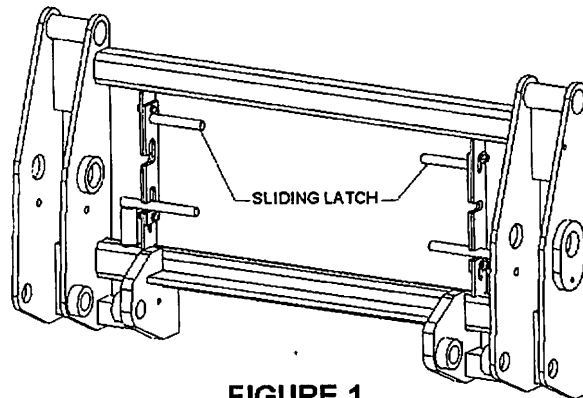

FIGURE 1.
STEP 1 Approach the loader slowly and place the tractor close enough to allow the connection of the hydraulic hoses. Connect the hoses to the tractor so that the loader can be operated. See Figure 1.
STEP 1 *DRIVE ONTO FLAT, LEVEL CONCRETE.* Raise the loader and place the stand legs in the position shown in Figure 1.
1. Raise sliding latches as shown in Figure 1.
3. Rotate QT pins out of the upper notches, lower, and then rotate them into the lower notches on the sliding latches as shown in Figure 1. **NOTE:** If the QT pins do not easily slide thru the lug on the attachment, do not force them. Simply rotate the attachment back and forth slowly with the bucket cylinders of the loader and the QT pins should fall into place. Periodically grease the QT pins and sliding latches.